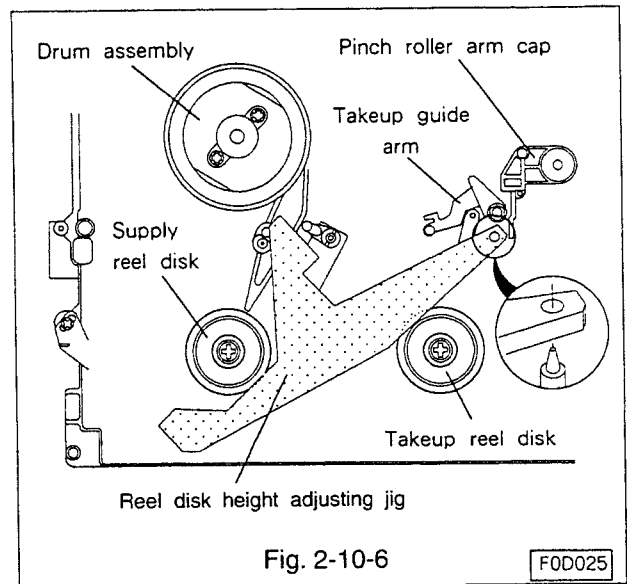
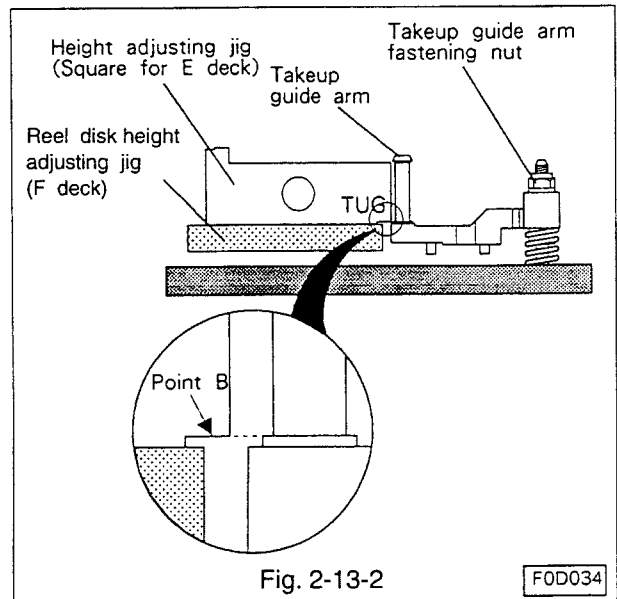

Fig. 2-10-6
Fig. 2-13-2
- J. Place the reel disk height adjusting jig (Part Number 859C342O20) in the reference position on the main plate. (Refer to Fig. 2-10-6.)
- E. Place the reel disk height adjusting jig(Part Number 859C342O20) in the reference position on the main plate. (Refer to Fig. 2-10-6.)
- B. Place the reel disk height adjusting jig(for the F deck) in the reference position on the main plate(Refer to Fig. 2-10-6). Insure the takeup guide arm is level with point B of the height adjusting jig(for the E deck). (Refer to Fig. 2-13-2.)